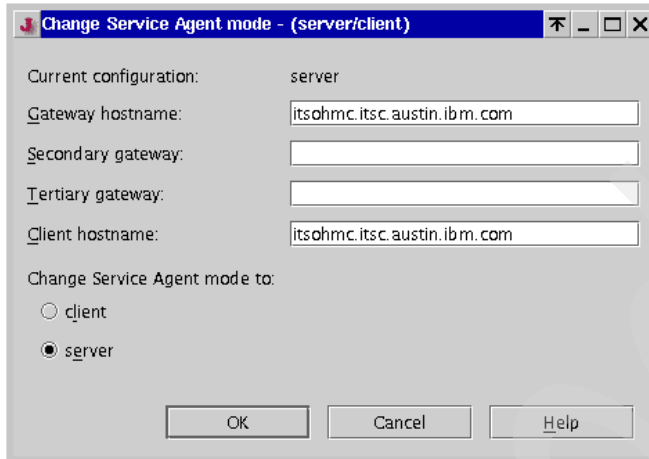

Figure 11-11 Change Service Agent mode (server/client)
2. Select the **Change Service Agent mode (server/client)** task in the Content area. The Change Service Agent mode (server/client) window opens as shown in Figure 11-11 on page 259.